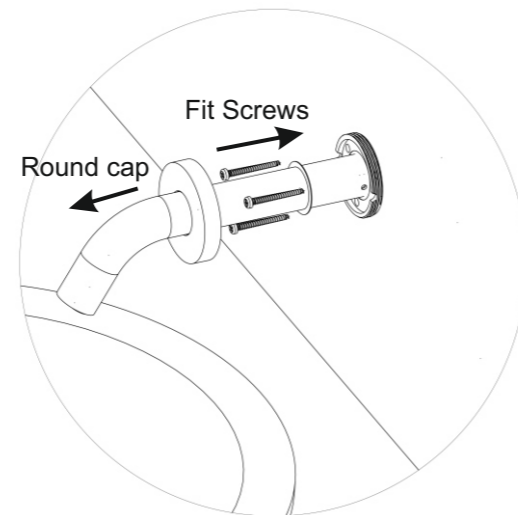

Figure 2
- 3) For fitting spout of the faucet on the wall, loosen the round cap on the brass flange as shown in Figure 2 by rotating it. Pass the water supply pipe and sensor wire with connector through the conduit pipe. Mark the spots through brass flange on the wall for drilling the holes. After drilling the holes on the wall, fit the brass flange on the wall with the three screws (provided) and fit the round cap back in its place.
- 2) If required, remove the sensor tap from the wall (Refer Fig. 2). Replace the faulty sensor with a new one in its position. Push the sensor connector and wire through the tap and the conduit pipe in the wall. It might be helpful to attach a thick wire to the end of the sensor connector and push it first through the conduit pipe. Once the wire appears from the bottom end of the conduit pipe, pull it to pass the sensor wire and connector through the conduit.